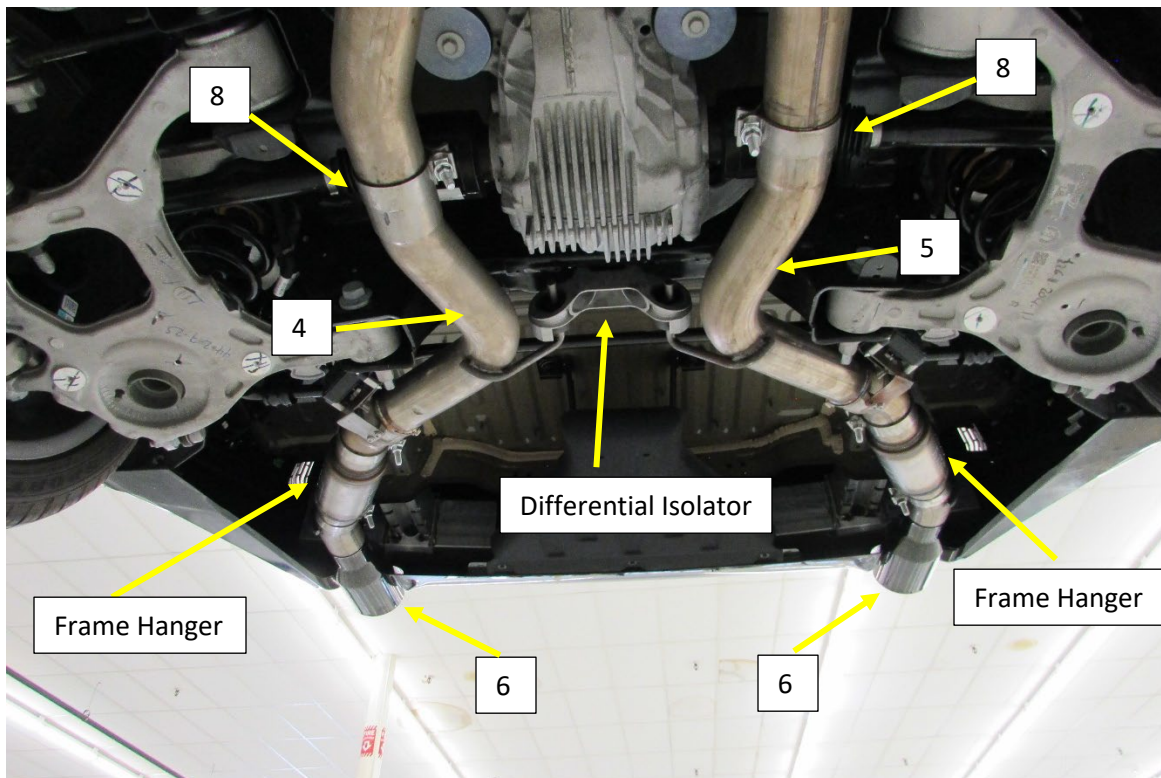

Figure.9
22. Install a 3" band clamp **(8)** on to each tail pipe expanded end. **Fig.9**
23. Re install the differential isolator assembly if removed. **Fig.9**